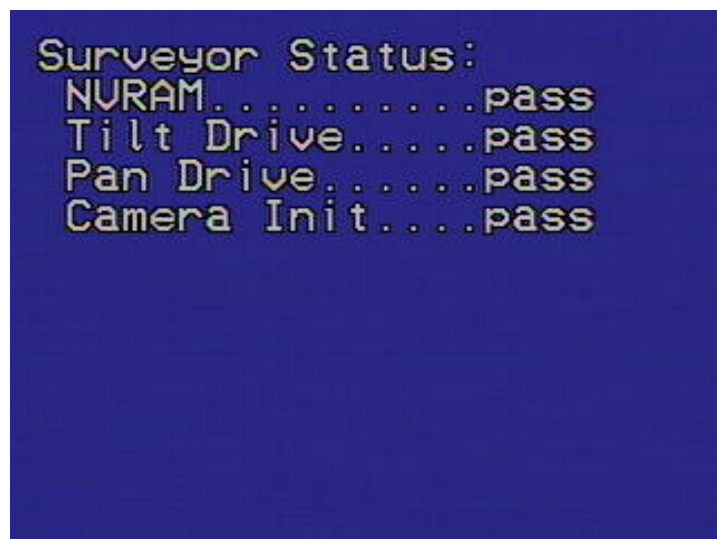

Figure 13
3. Switch the AC power on to the SVFT-M. The monitor will display the power-up test screen (Figure 13) for the duration of its initial testing. This test displays the status of the functions pan, tilt, zoom, focus and the integrity of the memory (NVRAM). If any test fails, "FAIL" displays in place of "PASS."
4. Press the PP ENTER key again. The PRESET LED display remains with the number 95. The monitor will display the power-up test screen (Figure 13) for the duration of its initial testing.